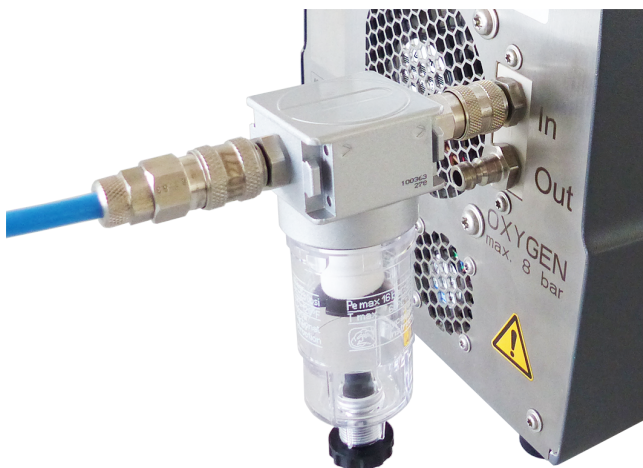

Fig. 6: Connecting the particle filter
line with the pressure reducer and the flashback arrestor ③ to the oxygen supply with regulator. Then connect the other end of the pressure line to the particle filter ④ and the whole assembly to the oxygen inlet which is marked with IN at the rear side of the instrument (refer to Fig. 6 [► 11]). This filter prevents particles from entering the instrument through the oxygen supply, thus preventing damage to the valve.